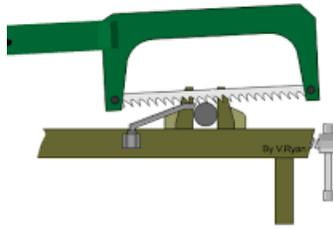

Figure Saw-7: an inclined cut during saw machine running
8. Run the machine. See figure Saw-7.